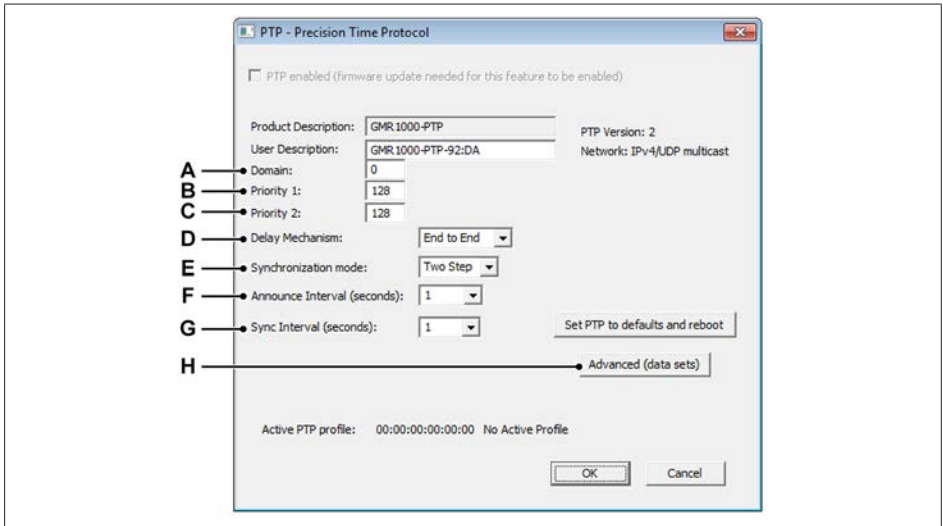
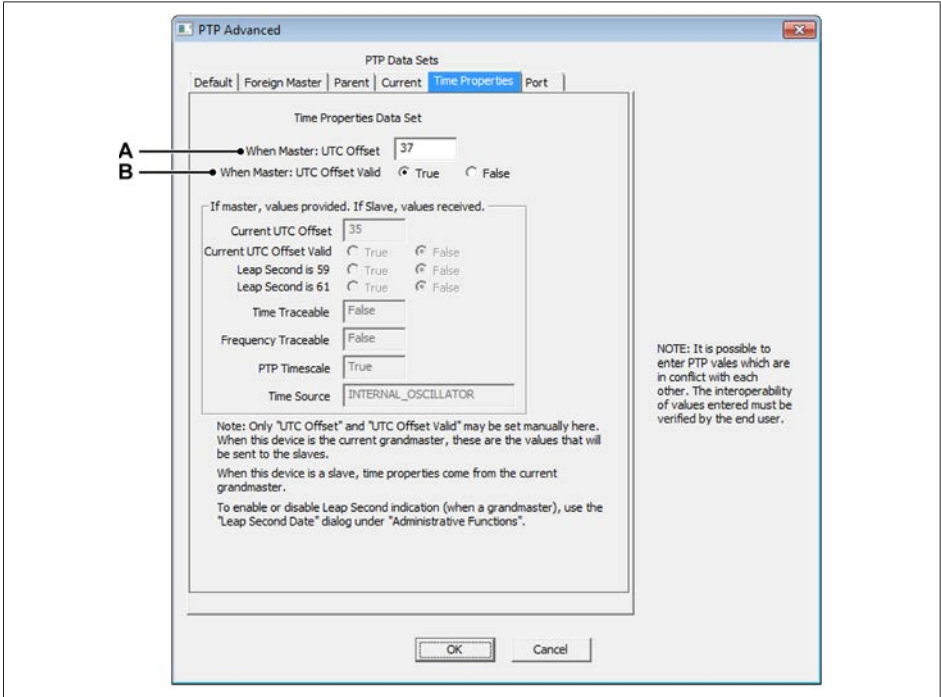

Fig. D.61 PTP - Precision Time Protocol
Fig. D.62 PTP Advanced - PTP Data Sets/Time Properties settings
6. Click the **Advanced (data sets)** button (H) in PTP - Precision Time Protocol window (see Fig. D.61) to open the PTP Advanced settings (see Fig. D.62). In **PTP Advanced** window make sure the followings settings are set: